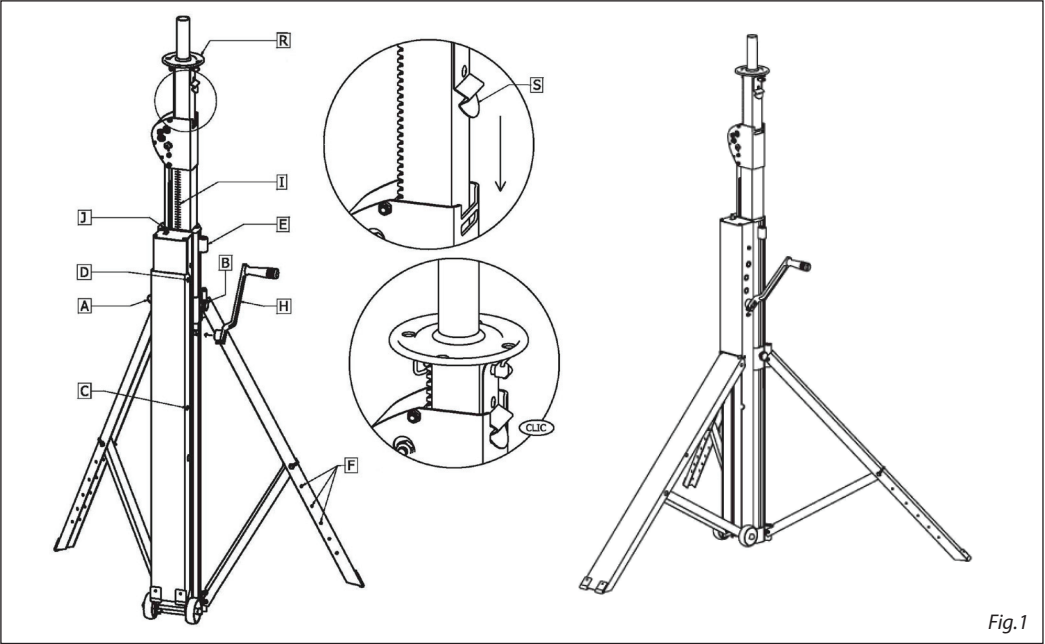

Fig.1
- Unlock the foot safety pin (A) unscrew the blocking Wheel (B)(see figure 1).
- Push the sliding front foot support downwards until it locks itself in unfolded position and tighten the security wheel (B)
- Unlock rear foot (C), unfold it and lock into position (D).
- Check the elevator stability thanks to the bubble marker (E).
- Adjust if required the leg position with the appropriate safety pin location (F) to offset a possible un irregular floor.
- Position the load fixing device (R) et secure it with screw.
- Push the locker forward (J).
- Position the handle on axle (H) and check the self locking system.
- The height of load can be checked directly (line between the first and the second section) on the scale-line (I) integrated to the 2d section. The load can be adjusted to the cm